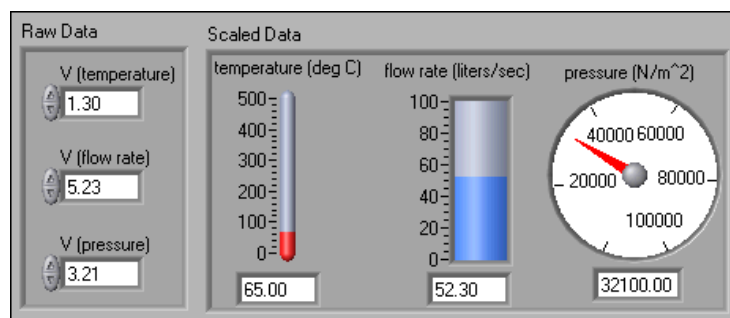

Figure 6.10
2. Change the controls as shown in Figure 6.10.